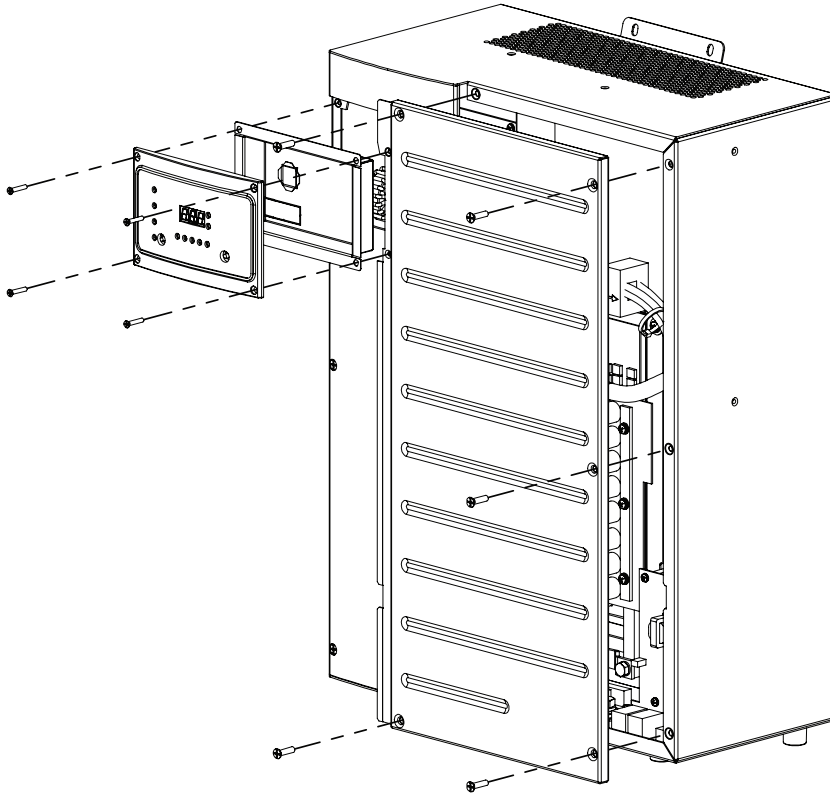

Figure 5-3 Right-side panel removal
5. For easier access, remove the right-side panel of the Conext XW+, as shown in Figure 5-3.